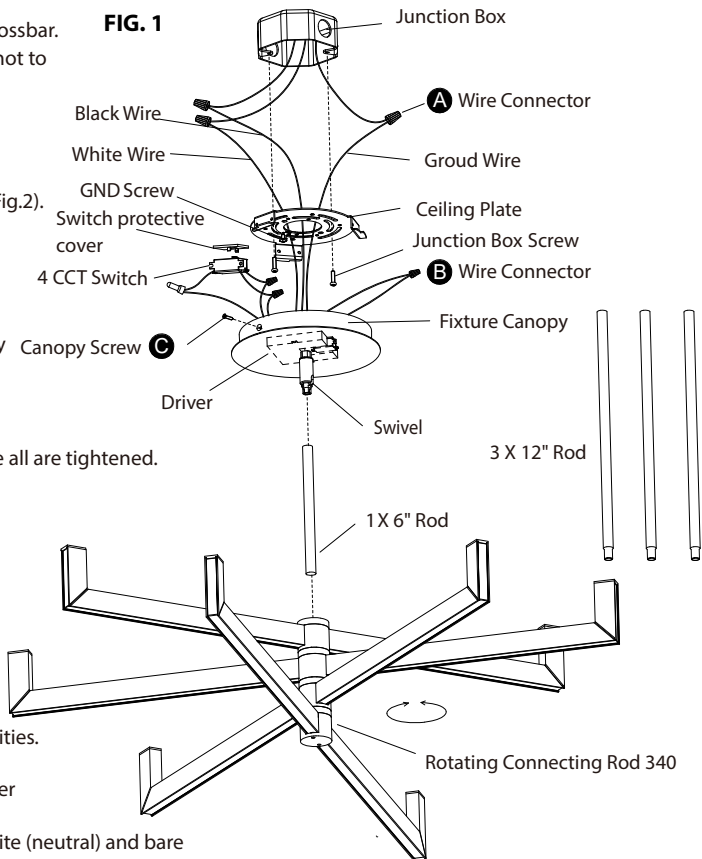

Fig.2 4CCT Switch
3. Remove the Canopy screw (C) from the ceiling plate.
4. The lamp can switch between four color temperatures (2700K-3000K-3500K-4000K), which can be adjusted to your preference with the switch mounted in the canopy. (Fig.2).